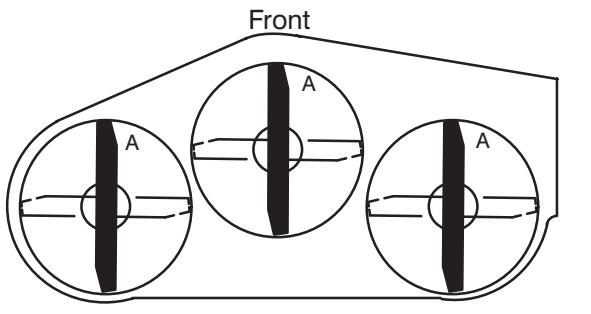

Figure 42
1. Rotate the blades until the ends face forward and backward (Fig. 42). Measure from a level surface to the cutting edge, position A, of the blades (Fig. 43). Note this dimension.